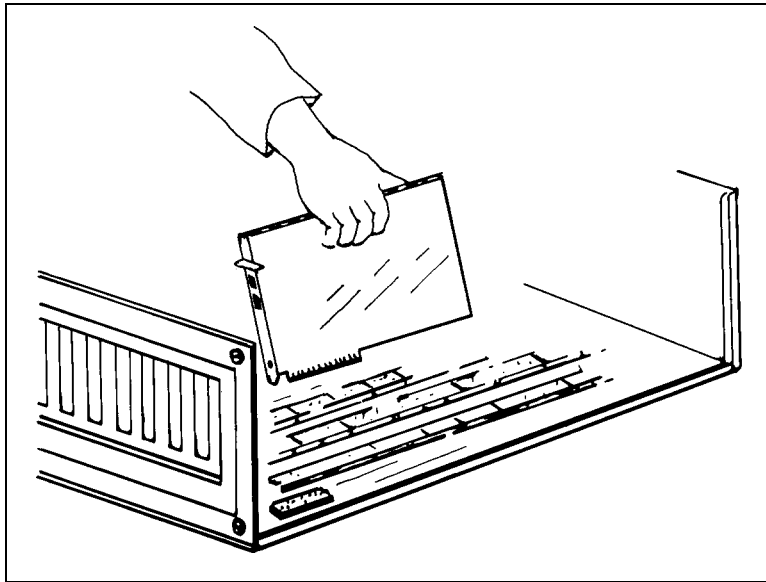

Figure 4: PC Card Slot
- b. Place the COMM-422 in the slot, slide it down until the bus connector on the card enters the slot connector. Press carefully on the top edge of the card until it is completely seated in the slot connector (see *Figure 4*).